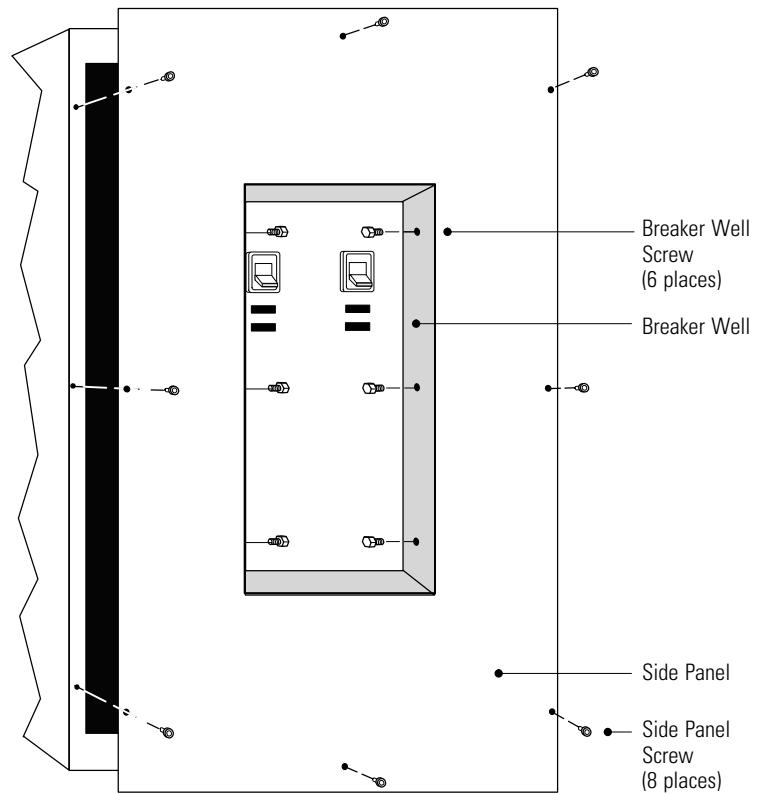

Figure 5. Removing the Side Panel (Dual 400A Main Input Breaker or Dual 600A Main Input Breaker Configuration Shown)
6. Remove the six screws inside the breaker well. There are three screws on each side within the well. Retain the screws for later use. See Figure 5.